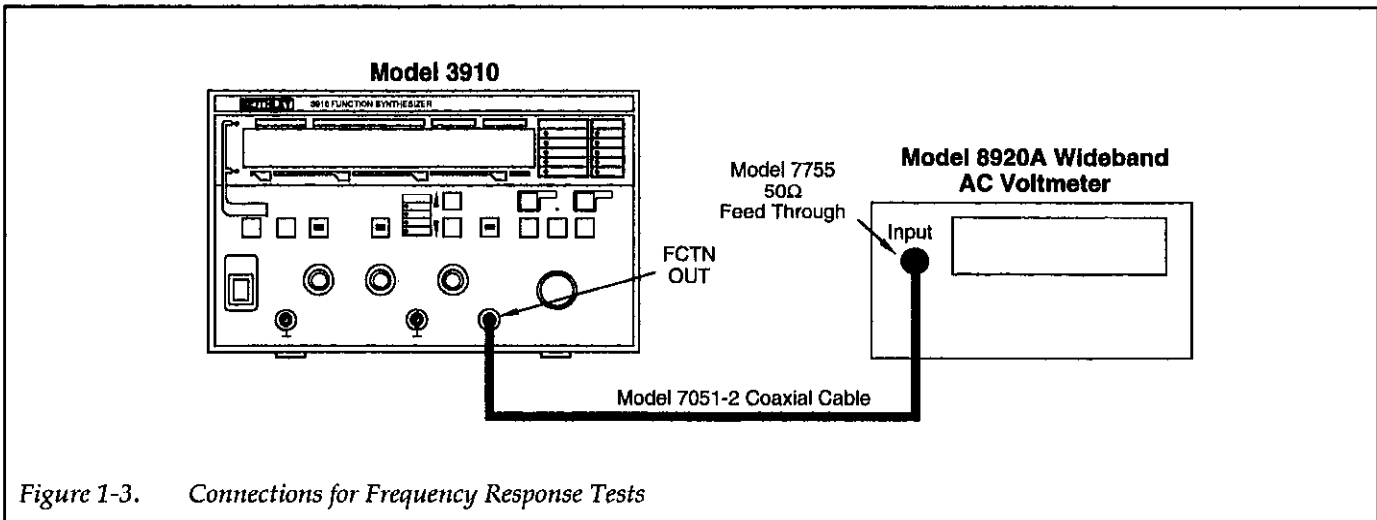

Figure 1-3. Connections for Frequency Response Tests
- wideband AC voltmeter, as shown in Figure 1-3. Be sure to connect the 50Ω feed-through terminator as shown.